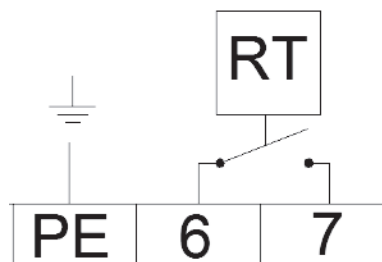

Figure 10 - ON/OFF thermostat connection
- Connect the two thermostat wires to terminal 6 and 7 (see figure 10 or the electrical wiring diagram in §11). This is a 24 V connection for the thermostat signal.